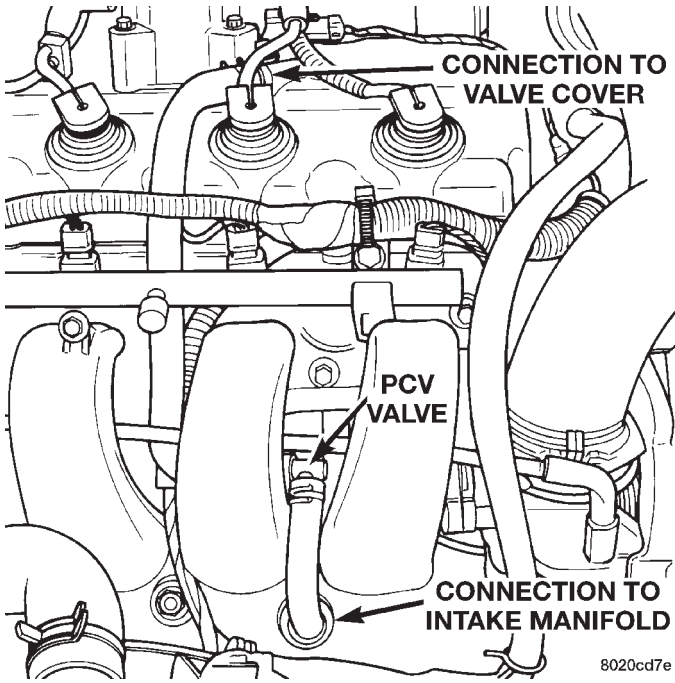
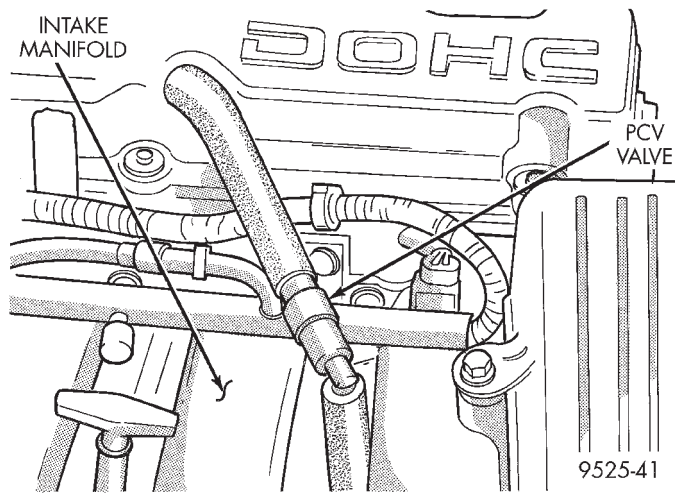
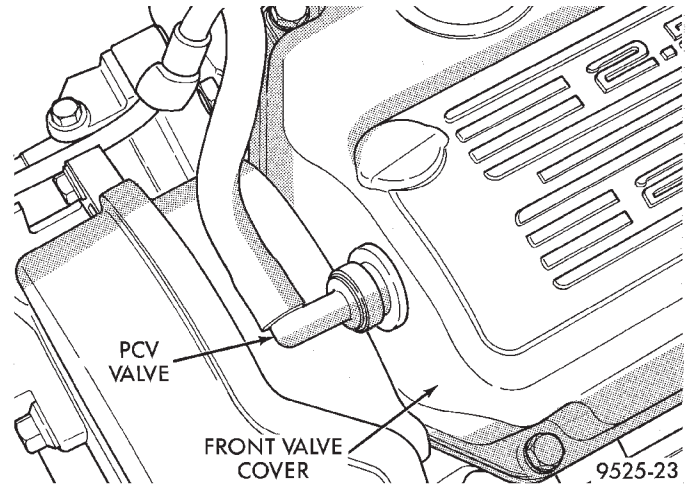

Fig. 39 PCV Valve—2.0L Engine
Fig. 40 PCV Valve—2.4L Engine
Fig. 41 PCV Valve—2.5L Engine
(6) Check hose connections between the PCV valve, vacuum port-intake manifold (Fig. 39), (Fig. 40) or (Fig. 41).